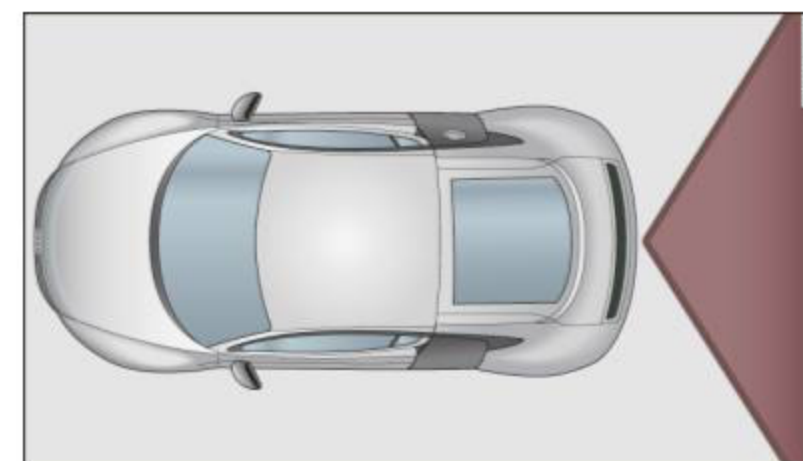
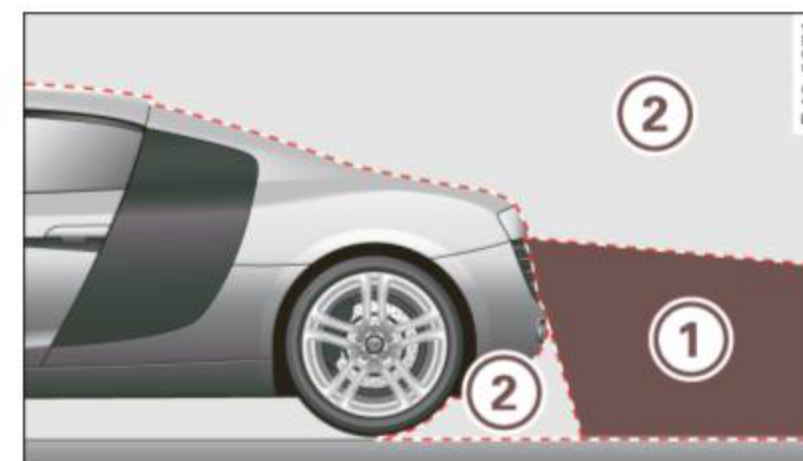

Fig. 72 View from top: Rearview camera coverage area
Fig. 73 Side view: Rearview camera coverage area
The rearview camera shows you the area behind your vehicle in the navigation system display. This area roughly corresponds to the area in $\Rightarrow$ page 89, fig. 72 and ① $\Rightarrow$ page 89, fig. 73. Orientation lines and colored surfaces are projected in the area shown, which can help you with parking and maneuvering. Objects that located in an area that is not captured by the camera ② $\Rightarrow$ page 89, fig. 73 and that are closer to the bumper will not appear on the navigation system display.
- The rearview camera does not show the entire area behind the vehicle ⇒ *page 89*, fig. 73. Watch out especially for small children and animals. The rear view camera cannot always detect them, posing risk of an accident!